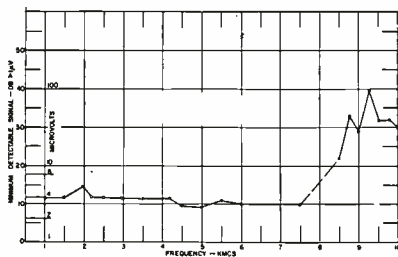

Fig. 7: Minimum detectable signal of interference set used for curves in Fig. 4.
Receiver sensitivity measurements are performed by injecting an unmodulated (CW) signal and observing the signal level at which it was just detectable. These values are plotted in Fig. 7; it is evident that the sensitivity in the range of 7.5-10 KMC has deteriorated in comparison to the other frequency bands.